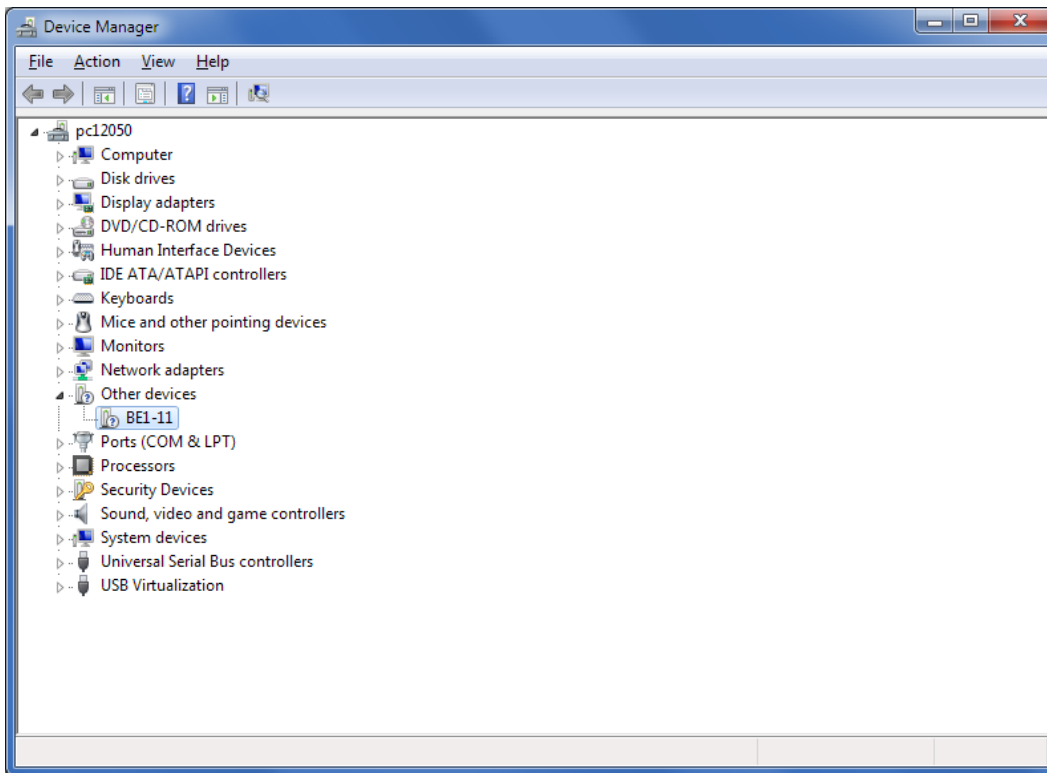

Figure 45-2. Device Manager
Step 2. Open the Windows® Device Manger as shown in Figure 45-2. Right-click on BE1-11 (or Unknown Device) under Other Devices and select Properties.